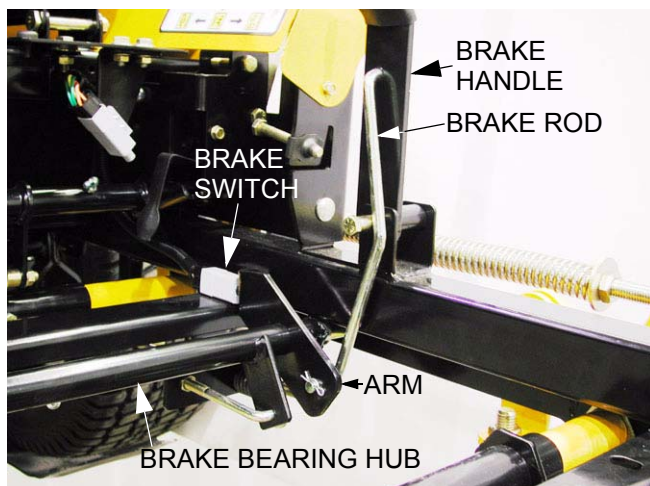

Figure 7.14
- 7.14. Confirm the position of the brake bearing hub: the top of the arm that the brake rod (to the brake handle) connects to should line-up directly with the parking brake switch, and the brake rod should be parallel to the frame. When this is true, the front brake connector rods should also be parallel to the frame. See Figure 7.14.